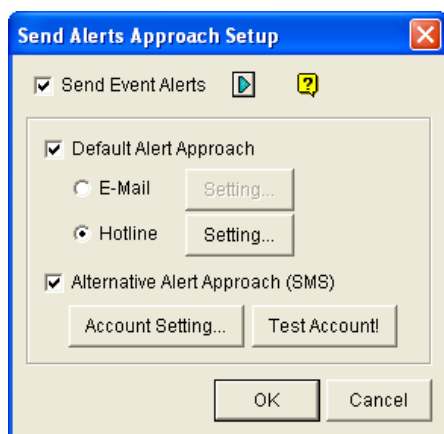

Figure 10-12
7. Click the **Test Account** button (Figure 10-12). If the connection of both devices is established, the message will appear: *Login SMS Server OK!* If the connection fails, the message will appear: *Connect to SMS Server Fail.*
1. Open the **Send Alerts Approach Setup** dialog box (Figure 10-12).
1. On the main screen, click the **Configure** button (No. 14, Figure 1-2), select **System Configure**, and select **Send Alerts Approach Setup**. The Send Alerts Approach Setup dialog box (Figure 10-12) appears.